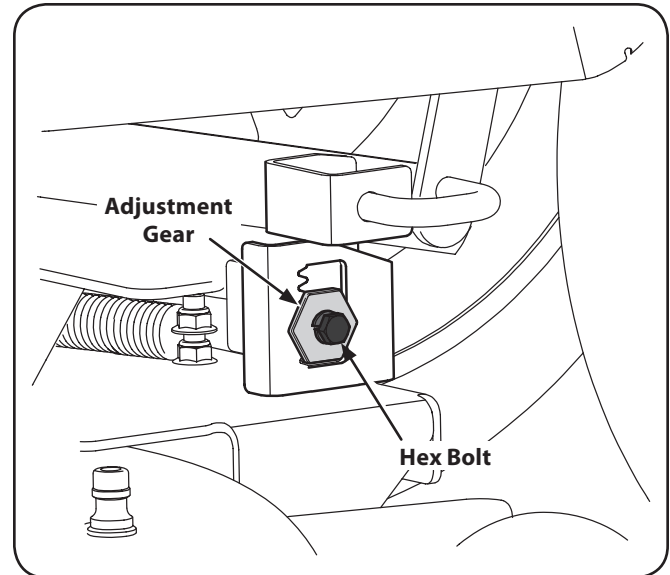

Figure 2-9
3. Loosen, but do NOT remove, the hex bolt on the left deck hanger bracket. See Fig. 2-9.
4. Using a wrench, raise or lower the left side of the deck by turning the adjustment gear. See Fig. 2-9.